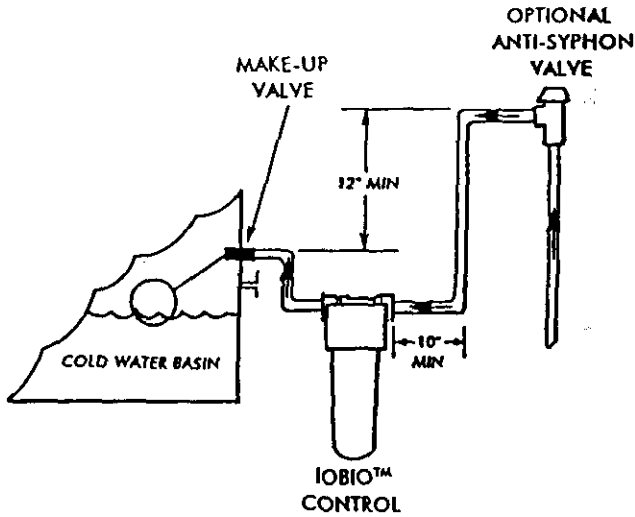
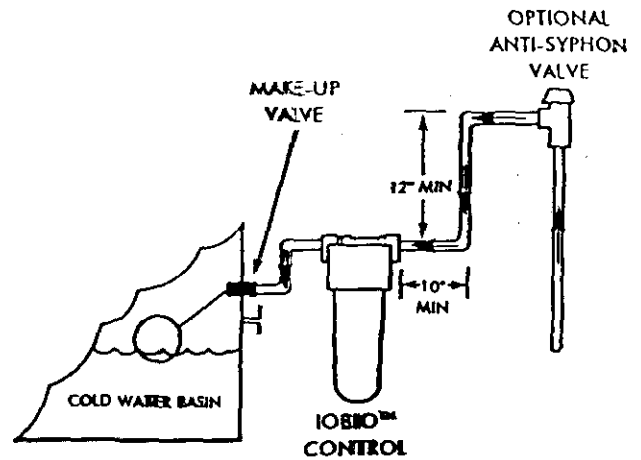

Figure 2A
Figure 2B
4. Locate a spot to mount the anti-syphon valve (if required), allowing a minimum valve elevation of 12 inches from the connections into the evaporative cooling equipment (Figure 2A) or the top of the IOBIO™ housing (Figure 2B), whichever is higher. The vertical dimensions are required for correct functioning of the anti-syphon valve. Whether or not the anti-syphon valve is installed, a minimum straight run of pipe upstream of the IOBIO™ Control must be provided for correct functioning of the device.